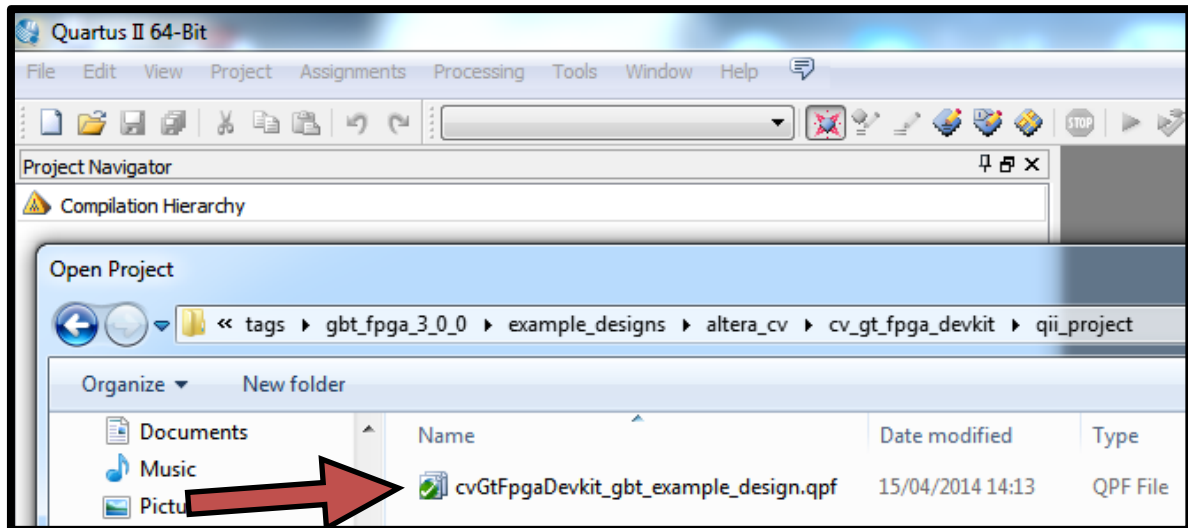

Figure 37: Folder of the Quartus II project file (.qpf)
4. Open the "qii\_project" folder where the Quartus II project file of the selected GBT-FPGA example design (in this case "cvGtFpgaDevkit\_gbt\_example\_design.qpf") is stored and double click on it for opening the project in Quartus II (if it is the first time that you open the GBT-FPGA example design, the "Open Project" window will only show the .qps file) (see Figure 37).